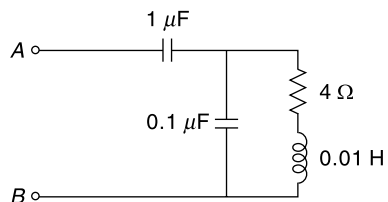

Fig. 5.64
5.95 For the circuit shown in Fig. 5.64 determine the equivalent admittance at terminals AB if $f = 50 \, \text{Hz}.$